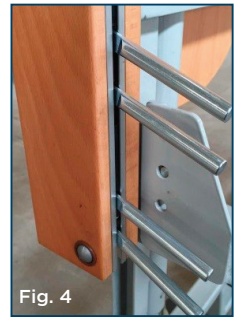

Fig. 4
D) Depress the lower release button at one end and slide the unit into the channel past the lower release button so it is held in the channel as **Fig. 4**.